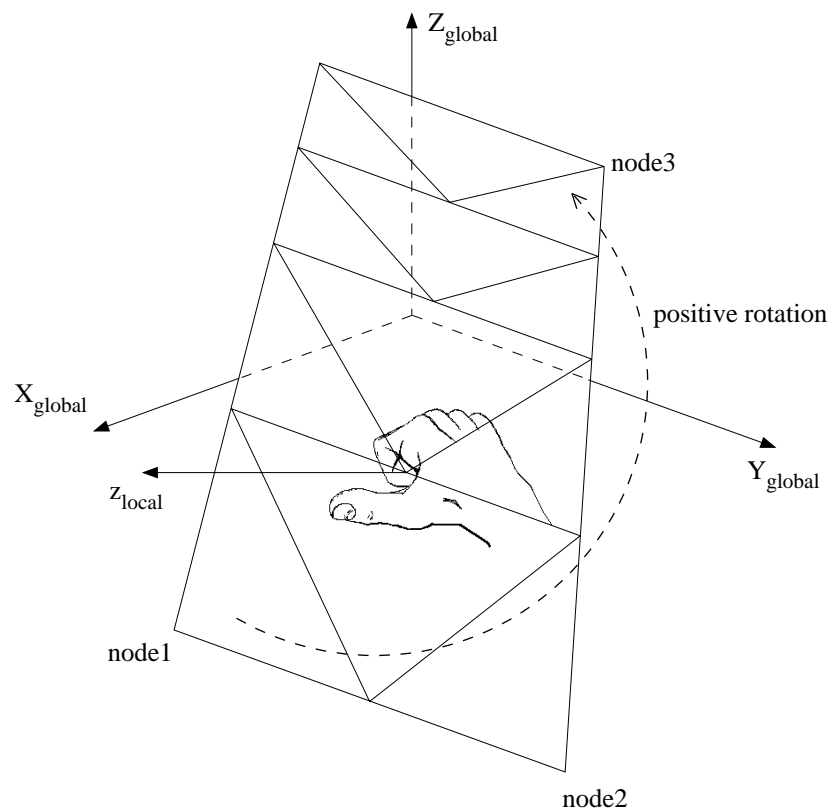

Figure 5.20 Local coordinate system defined by using the PLANE option to define the local y-x-plane
- A plane (option PLANE) is defined by referring to three nodes. The local coordinate system is defined for all elements in this plane as follows: the local y-x- or z-x-plane, depending on the option chosen, will be parallel with the plane defined by the three nodes. The direction of the local z- or y-axis, correspondingly, will be normal to the plane and with its positive direction according to the right hand rule and the positive rotation defined by the three selected nodes. See Figure 5.20.
Figure 5.20 shows the local coordinate system defined by using the PLANE option to define the local y-x-plane. The local z-axis is normal to the plane with a direction defined by a right hand rule and a positive rotation through the three nodes.